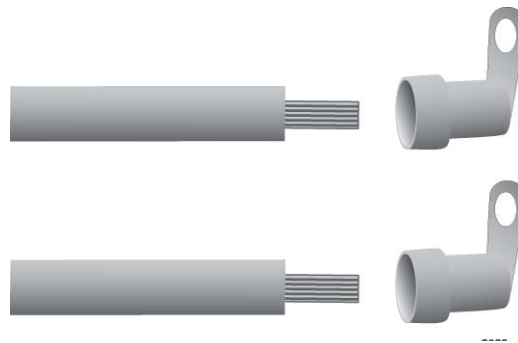

Figure 132. Attaching the Power Wires to the Right Angle Terminals
2. Insert the power wires into the right angle terminals included with the power supply and use a crimping tool to secure the wires to the terminals. See Figure 132,